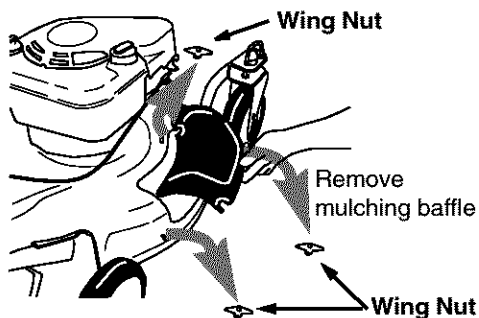

Figure 11
- Remove the three wing nuts holding the mulching baffle or side discharge chute in place. Then remove the plug or the chute as the case may be. See Figure 11.
- Remove mulching baffle or grass bag adapter. See Figure 11.
- When the mulching baffle is installed on the unit, the mower is used to mulch grass clippings. If the mulching baffle is not already installed, you will have to remove the grass bag or side-discharge chute as the case may be, and install the mulching baffle for the purpose. Make sure wing nuts securing the mulching baffle to the deck (Figure 11) are firmly tightened before starting to mulch.